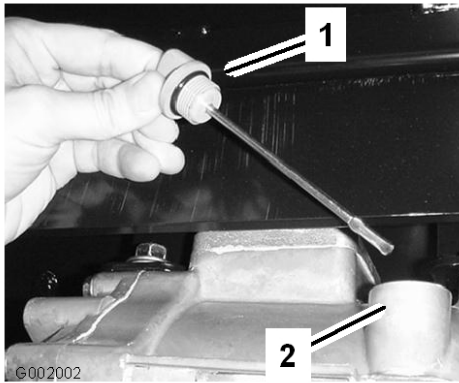

Figure 62
2. Remove the transaxle dipstick and wipe it with a clean rag (Figure 62).